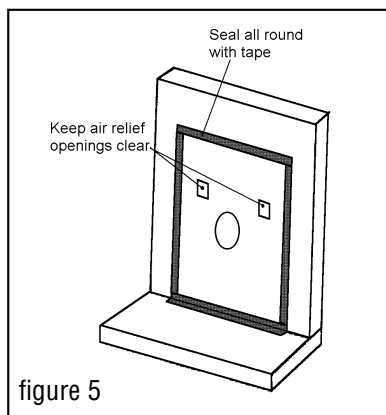

figure 5
3.4.2. Hearth mounting (figure 5)